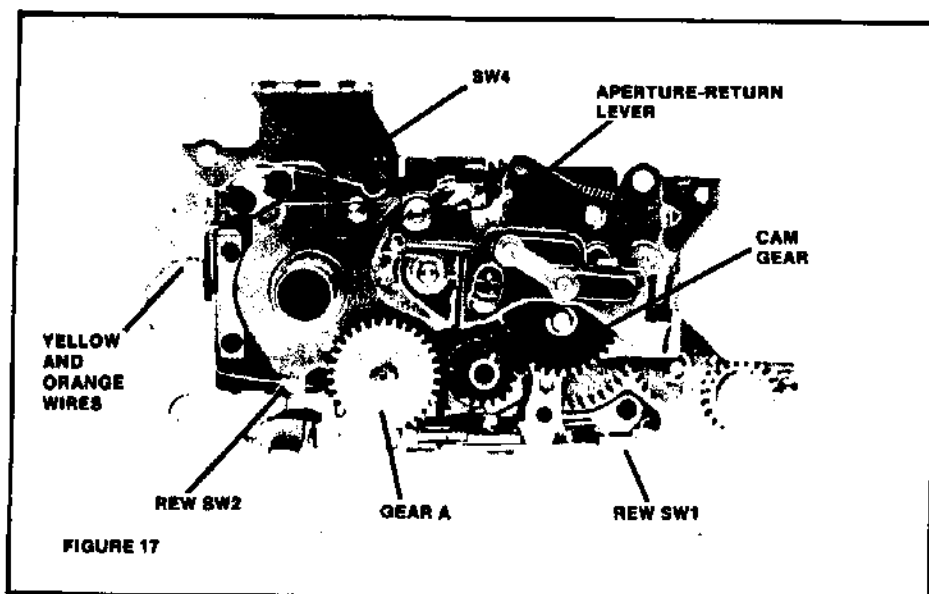

FIGURE 17
e. Adjust by bending the SW4 contact, Fig. 17 (with SW4 open, the fixed contact should be against the plastic post as shown in Fig. 17).
SW4. Winding-completion switch in wind-gear unit, Fig. 17. Switches on at the start of the M1 forward cycle to keep the winding motor running. Opens at the end of the wind cycle to shut off the motor.
REW SW2. Rewinding switch 2, Fig. 17. Closes when the rewind lever latches in the rewind position. The winding motor M1 now runs in the forward direction to rewind the film.